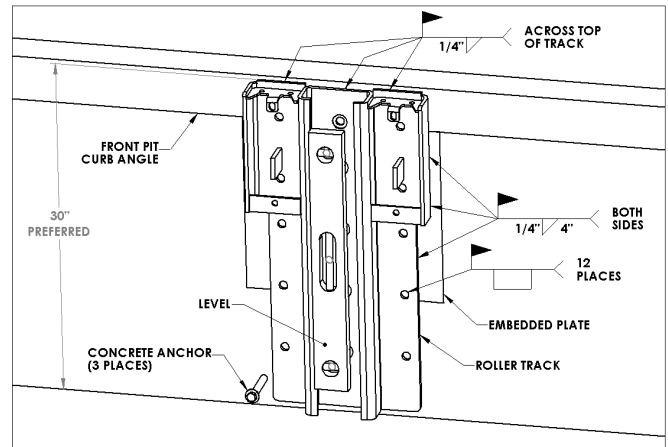

FIGURE 4—WELDING ROLLER TRACK FRONT VIEW (WITH EMBEDDED PLATE)
Plug weld all holes that are in contact with embedded mounting plate. All fifteen (15) holes must be either plug welded or anchored. See Figure 4.